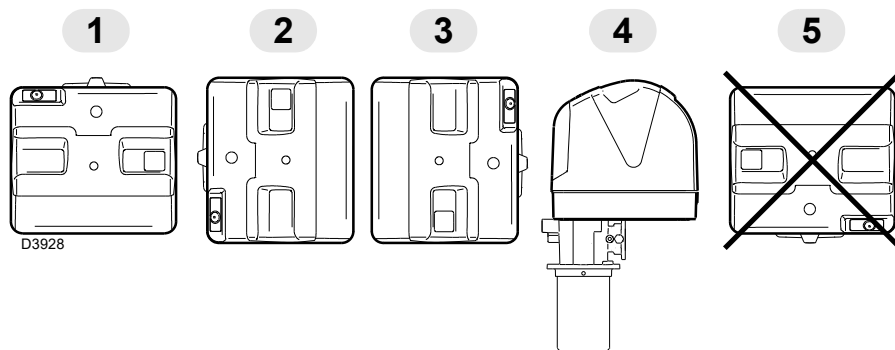

Fig. 7
- The burner is designed to operate only in positions **1, 2, 3** and **4** (Fig. 7).